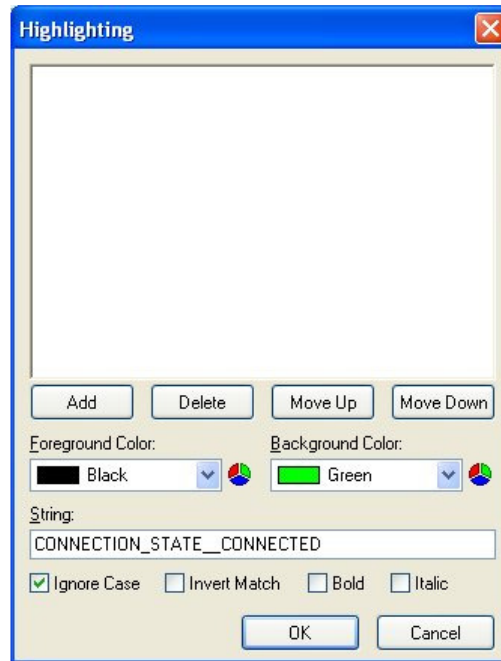

Figure 34. Set String to be Highlighted.
3. Add the string to be highlighted in the 'String' Box as shown by Figure 34, and select the 'Background Colour' in the appropriate box.